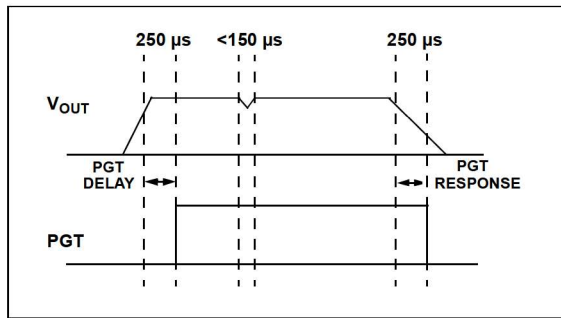

FIGURE 5-4: PGT Output Response.
- V_{OUT} is below 90% of regulated value; there is a 5% hysteresis. It resumes when V_{OUT} gets back to 95% of its nominal value. A 250 microsecond delay is needed for a valid signal (see Figure 5-4).